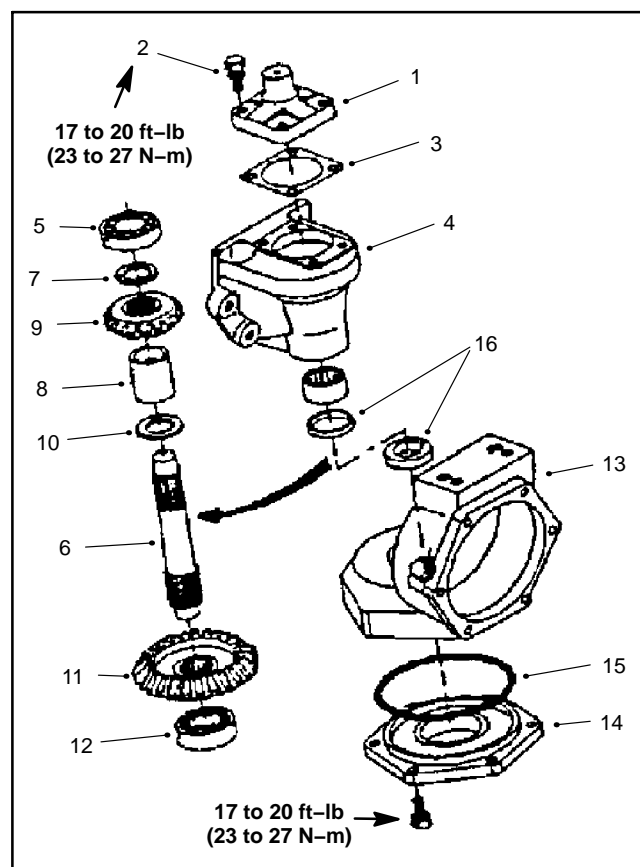

Figure 15
5. Remove the knuckle pin mounting screws and the knuckle pin. Remove the gasket and any remaining gasket material from either mating surface (Fig. 15).
10. Remove and discard bevel gear shaft seals from bevel gear case and axle case (Fig. 15).